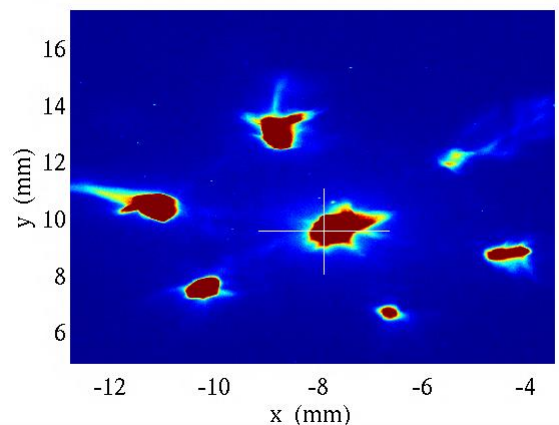

Figure 2
9. Repeat the same style of walk for the other axis with M2 and M3 as needed to observe all 7 beam petals as much as possible, as in Figure 2.
11. After all the petals are visible and made as even as possible it's time to check the solenoid alignment. Start by changing the solenoid so that the beam on PR10241 is as focused into a single spot as possible and get a beam marker (BM) of that position.